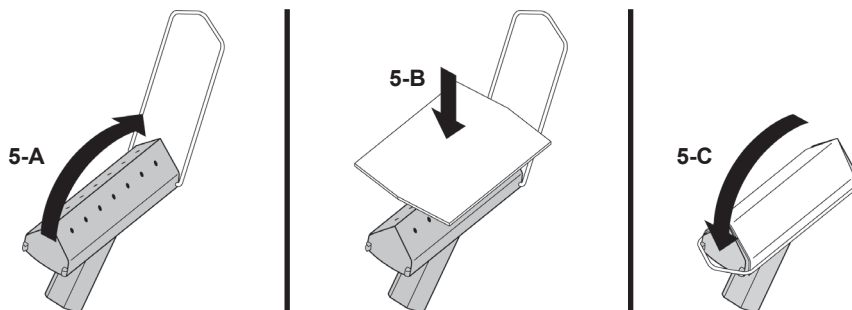

FIGURE 5
1. Swing Corner Tool latch arm to open position (FIGURE 5-A).
2. Press desired pad against Corner Tool (FIGURE 5-B). The pad should wrap around angled edge, covering all steam holes.
3. While continuing to hold pad against Corner Tool, swing latch arm over pad to locked position (FIGURE 5-C). This will secure the pad in place.